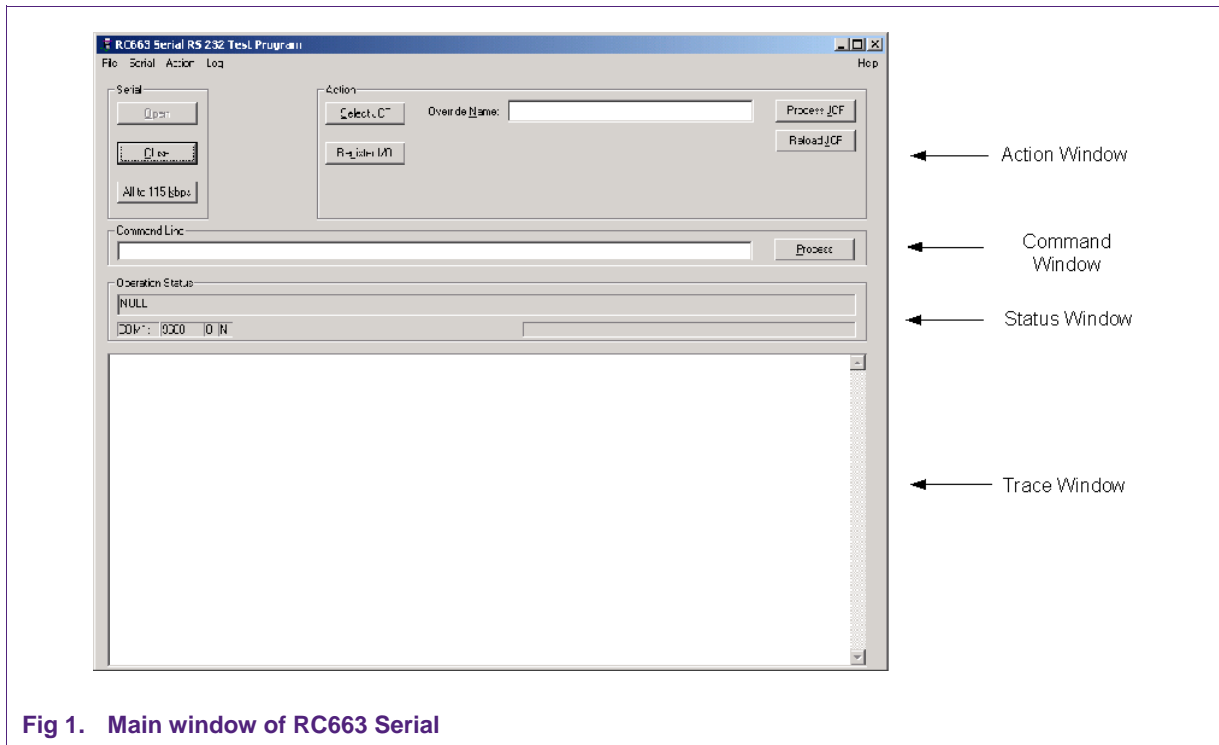

Fig 1. Main window of RC663 Serial
1. Start the *CLRC663 Serial RS232 Test Program* by clicking on the executable file. It is a standalone program, no further installation is required. An empty window opens as outlined in Fig 1: